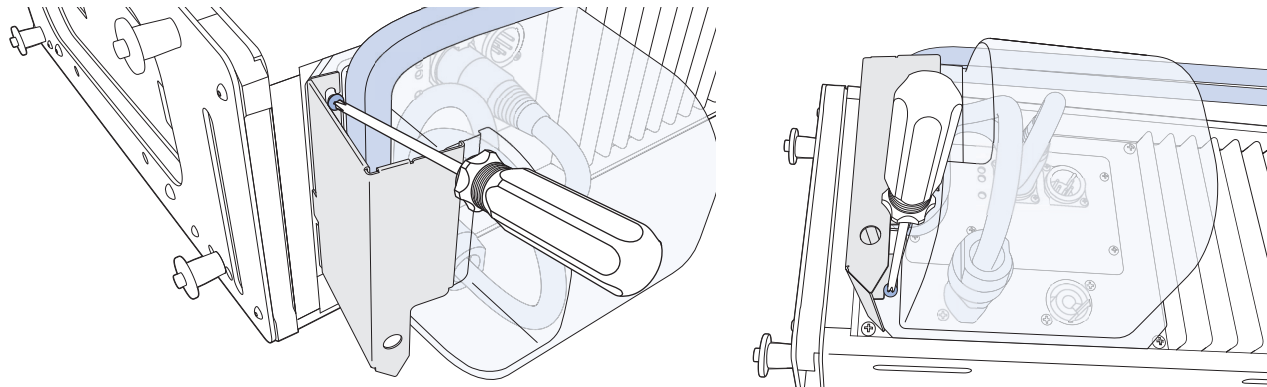

Figure 50: Tightening Screws on Left Side of Rain Hood
7. Tighten the upper and lower screws on the left side of the rain hood (Figure 50). The recommended torque value for all four screws is 10–12 in-lbs (1.1-1.4 N·m).